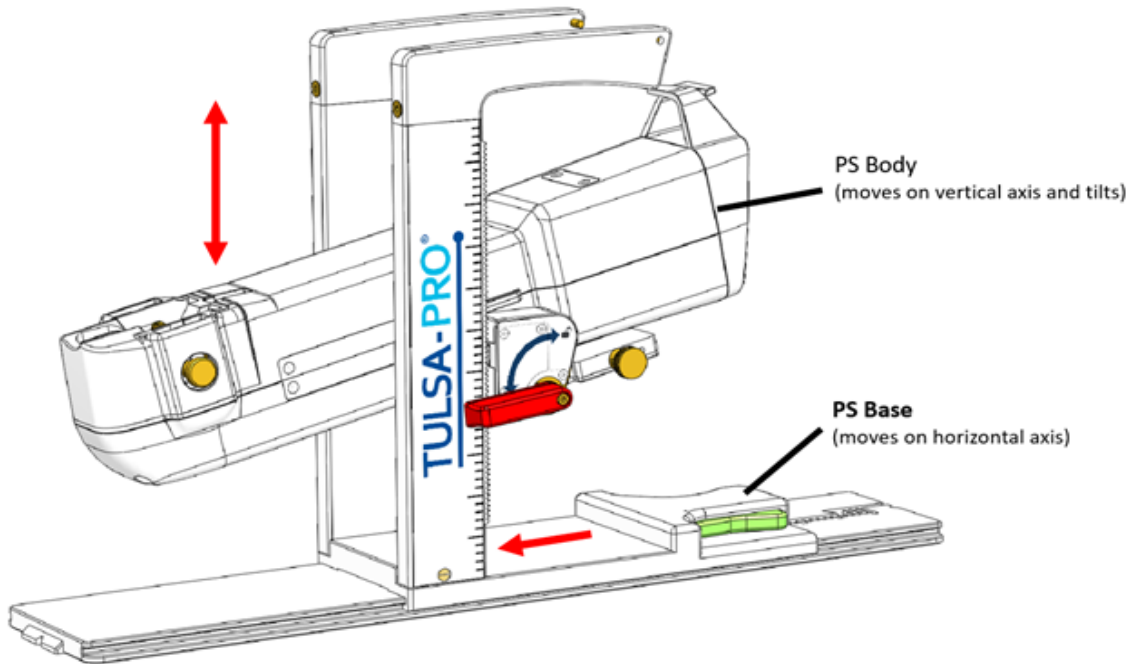

Figure 24: Adjusting the Positioning System
3. **MRI Technologist:** Manually move the PS into position so that the UA gripper aligns with the natural angle of the UA in the patient. Manually adjust the PS forward and backward, up and down, and left to right, and tilt the linear axis of the PS up and down (*Figure 24*).
**NOTE:** The PS adjustment knobs and levers are not colored as in *Figure 24*, but are colored here to help with these instructions.